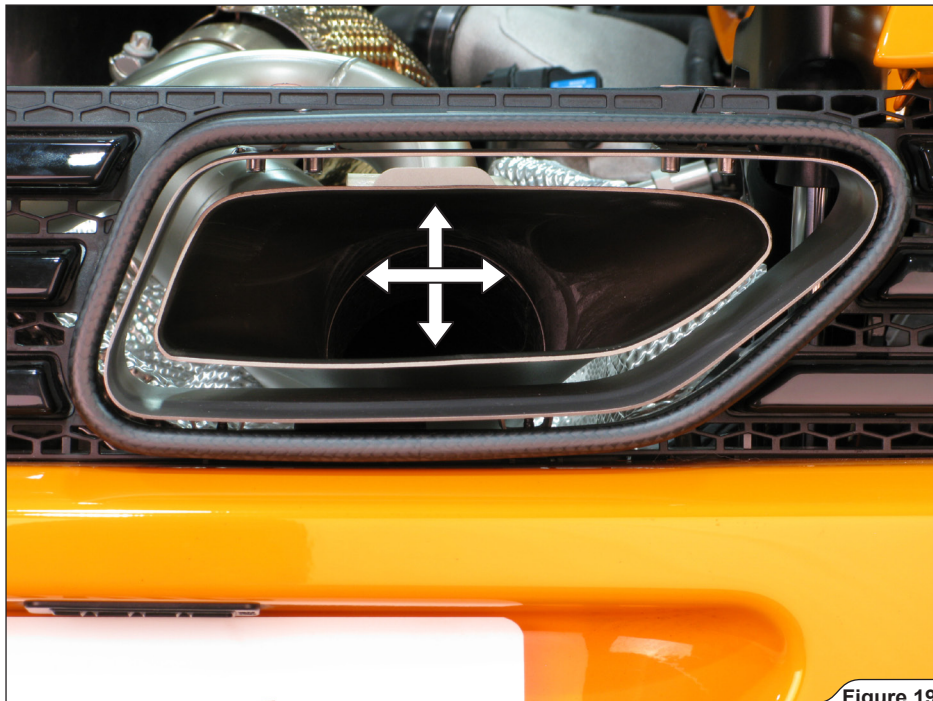

Figure 19
9. Adjust and center the muffler in respect to the tail pipes and tighten the muffler's rear brackets and clamps to the specified torques (**Figure 19, 20, 21**).